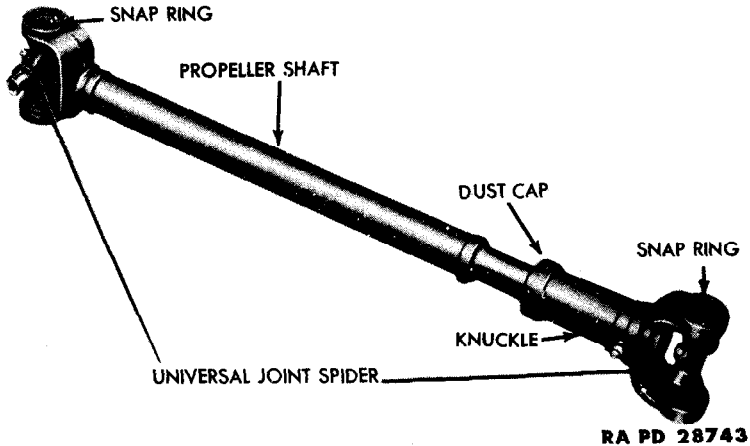

Figure 30 — Front Propeller Shaft
a. Front Propeller Shaft (fig. 30).
(1) **REMOVE SNAP RINGS FROM YOKE (fig. 30).** Place the propeller shaft in a vise. Remove the snap rings that secure the spider bearings in the yoke flange with a pair of pliers. If the snap ring does not snap out of the groove, tap the end of the bearing lightly. This will relieve the pressure against the snap ring.
(3) **REMOVE KNUCKLE FROM SHAFT** (fig. 30). Bend the ears of the dust cap off the knuckle. Slide the knuckle off the drive shaft. Remove the split cork gasket from the bearing cap. Line up the slots in the dust cap with the splines on the drive shaft and remove the cap from the shaft.